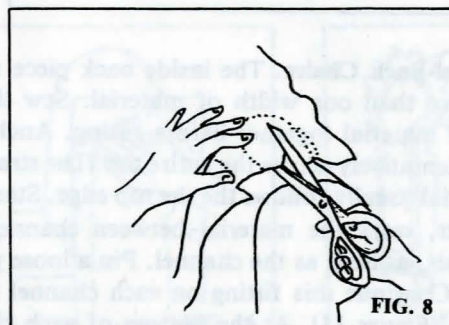

FIG. 8
**To fit around the curve** of the arm, rest the first finger of your left hand on the arm against the chair. Start clipping near the middle of the arm curve. Use scissors that have a sharp point. Clip to the first joint of your finger. Move your finger 1" down toward the seat. Always keep your finger on the arm and against the back of the chair when clipping to prevent cutting too close to the chair body. Now at the point where you began clipping, cut 1" toward the seat, or parallel to your finger. Then cut another 1" perpendicular to your finger joint. This forms a 1" tab (Figure 8). Continue cutting as many tabs as necessary to make the material lie flat.
Now fit the arm curve in back. Be sure the under arm corded seam is pinned securely to the outside back of the chair. Smooth the material from the arm front to back. Cut 1" tabs around the curve as you did for the inside back (see Figure 8). Chalk-mark the curve and add a 3" bias. The material below the curve down to the seat will serve as a tuck-in.